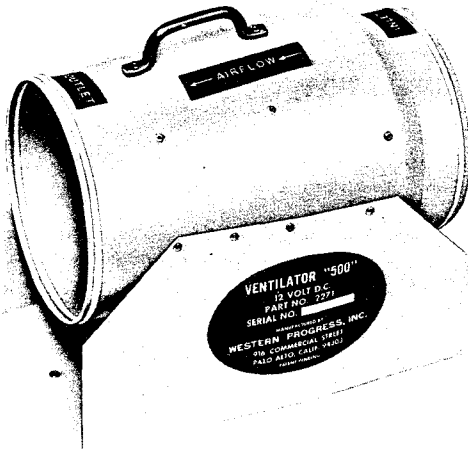

Fig. 1—12 Volt Blower
3.02 The fan and motor are enclosed in a metal housing containing both air inlet and outlet openings (Fig. 1). This inlet opening is protected by a wire mesh screen.